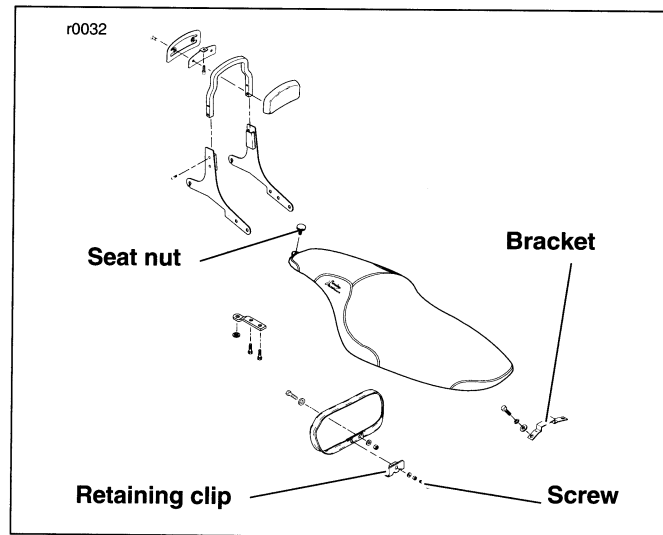

Figure 33. Seat and Mounting Hardware (Typical)
1. See Figure 33. Remove seat nut from rear fender.